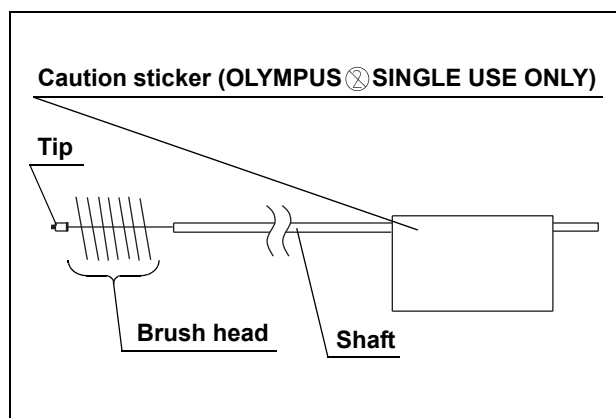

Figure 7.4
The single use channel cleaning brush is used to brush the inside of the instrument channel, suction channel, and the interior and/or openings of the suction valve, AW channel cleaning adapter, and biopsy valve (see Figure 7.4).
1. Confirm that the brush section and the metal tip at the distal end are securely in place. Check for loose or missing bristles (see Figure 7.4 on page 91).